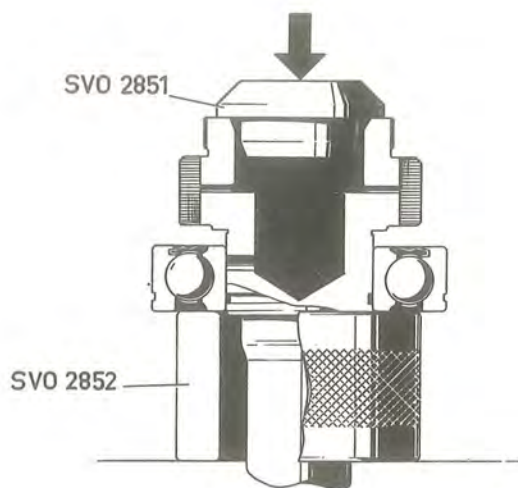

Fig. 4-28. Fitting the ball bearing on the input shaft
1. Press the oil seals on to the front and rear covers with drift SVO 2851 and SVO 1801 as well as SVO 2412. Press the ball bearing on to the input shaft with the help of the cushioning ring SVO 2852 and drift SVO 2851, see Fig. 4-28. Try out a circlip which fits well into the groove and fit the circlip.